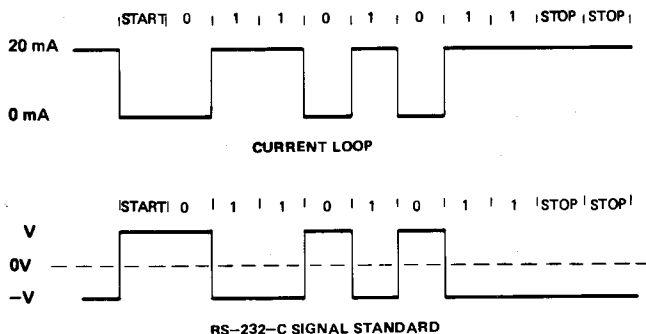

Fig. 2-50 20 mA Current Loop and RS-232-C Signal Standards
Each of the above configurations requires a specific cable for the connection of peripheral equipment. Figure 2-50 shows the two signal standards on the transmit and receive data circuits. For the Current Loop option, 20 mA represents a binary 1 and 0 mA represents a binary 0. For the RS-232-C option, negative voltage represents a binary 1 and positive voltage represents a binary 0.
**Programmable Communication Interface (PCI)** - Two 8251A PCs are used to provide the two communication channels. Programming of the 8251A is performed by the M20 system software to initialize the 8251A to support M20 communication formats. The PCI, also referred to as a Universal Synchronous/Asynchronous Receiver/Transmitter (USART), accepts data characters from the M20 CPU in parallel format and then converts them into a continuous stream of serial data for transmission. It can simultaneously receive serial data streams and then convert them into parallel format for the M20 CPU. It signals the CPU whenever it can accept a new character for transmission, or whenever it has received a new character. For asynchronous serial data communication, as implemented for the M20, a start bit indicates the beginning of the character. This is followed by the character data bits, least significant first, and two stop bits (see Figure 2-50).